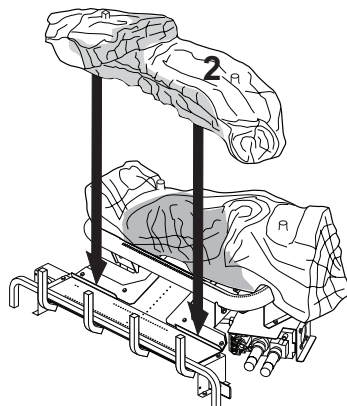

Figure 24 - Installing Log #2
2. Place middle log (#2) in front of U-burner and against the edges of plate as shown in Figure 24.